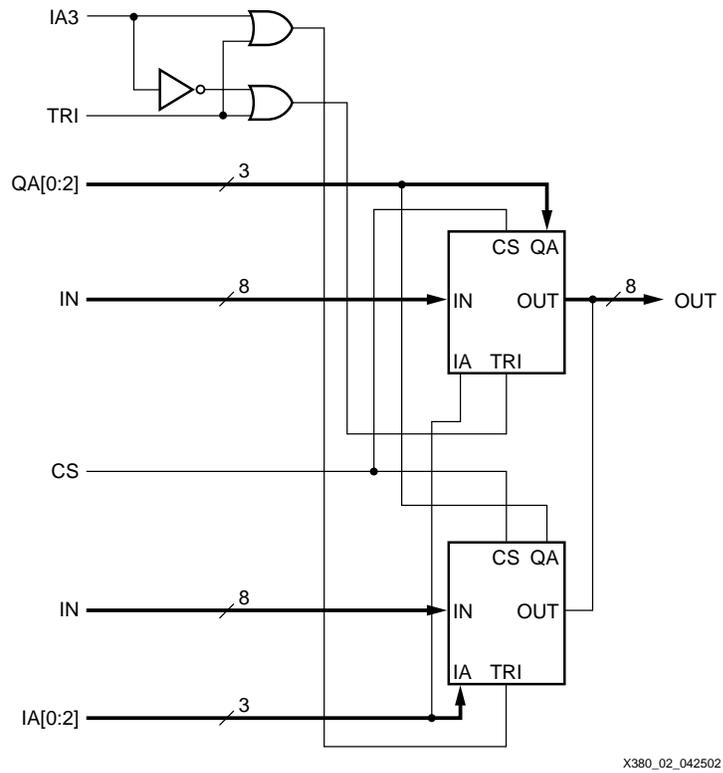
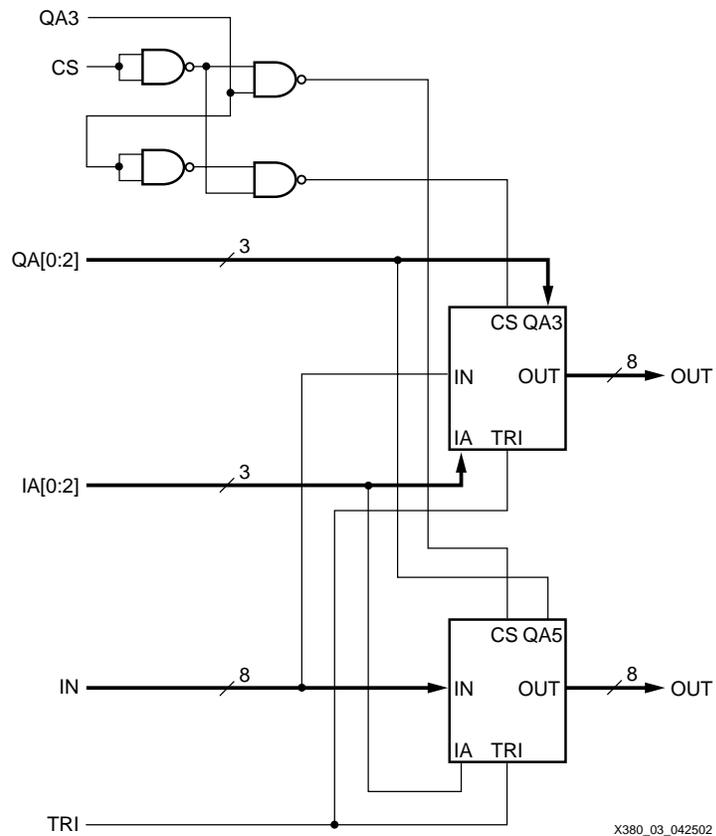

Figure 2: Input Port Expansion
Figure 3: Output Port Expansion
**Figure 2** and **Figure 3** show how to expand the number of inputs and outputs to increase the switch sizes beyond a single CPLD capacity.